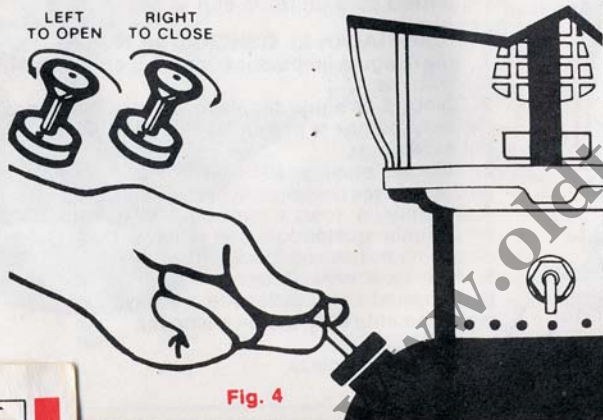

Fig. 4
2. Close pump knob firmly by turning to the right. (Fig. 4)